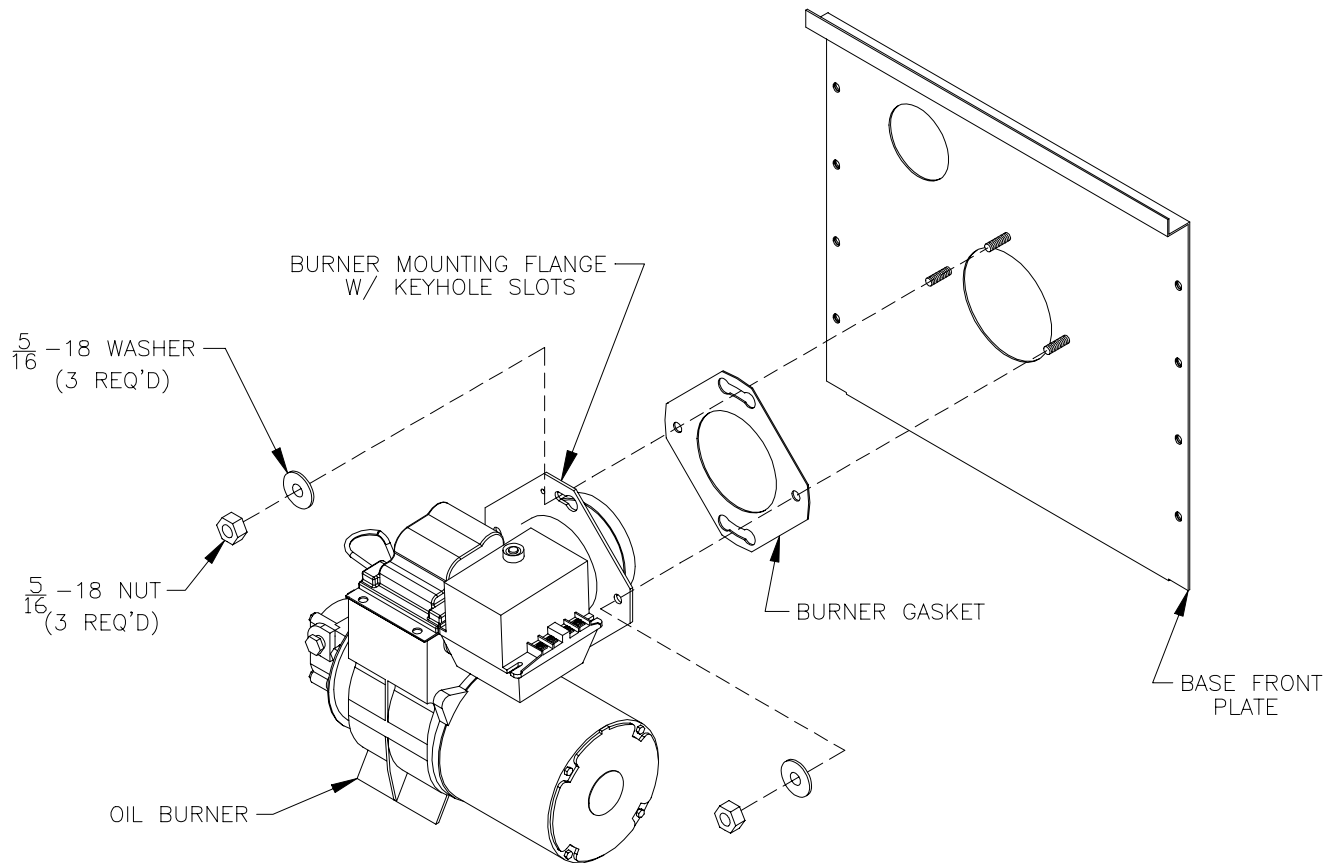

Figure 5: Burner Mounting
3. Mount burner on Base front panel and wire according to instructions provided with the burner. Refer to Figure 5.